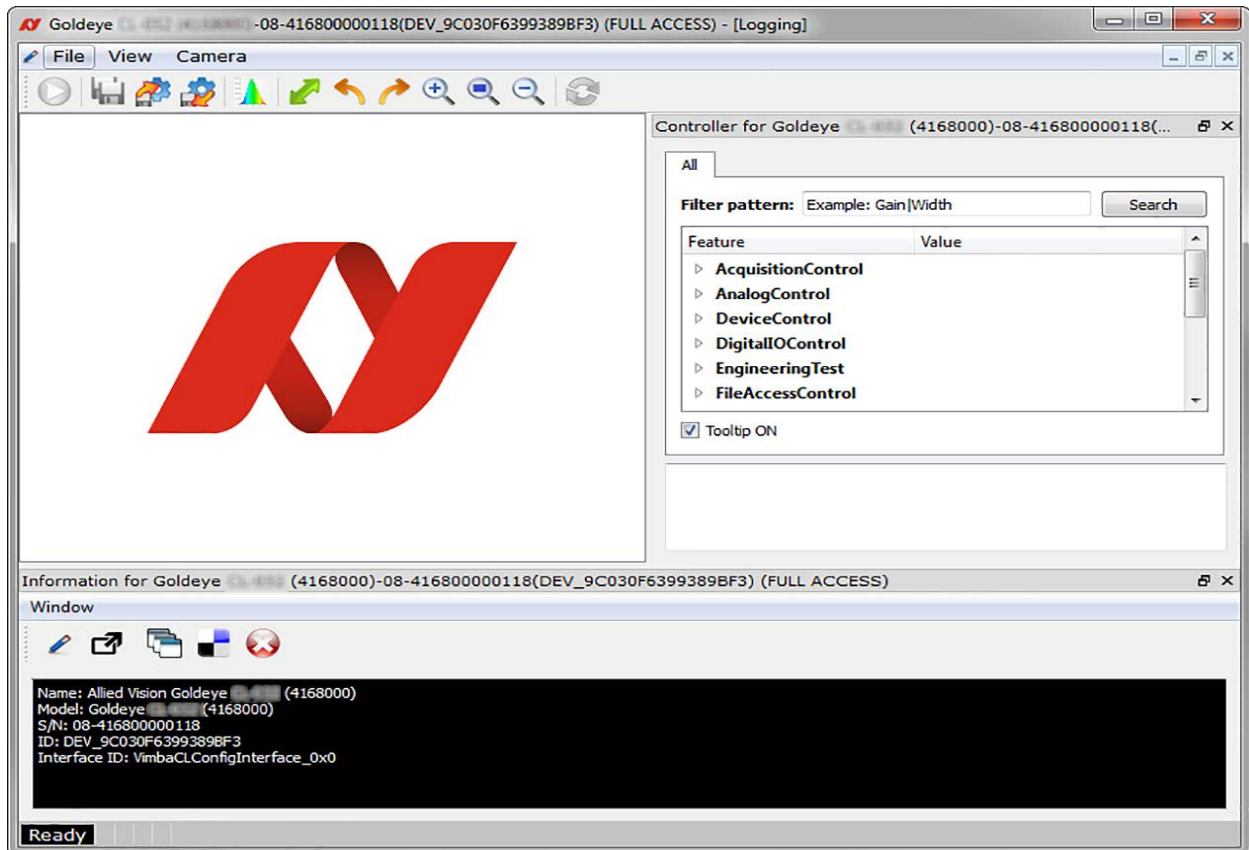

Figure 11: Vimba Viewer window
4. A new camera window appears, as shown in Figure 11 on page 65. This camera window consists of the following components:
The controller window is displayed in the top right section of the Vimba window, refer to Figure 11 on page 65. It is used to configure the camera frame rate, exposure time, pixel format, and much more.